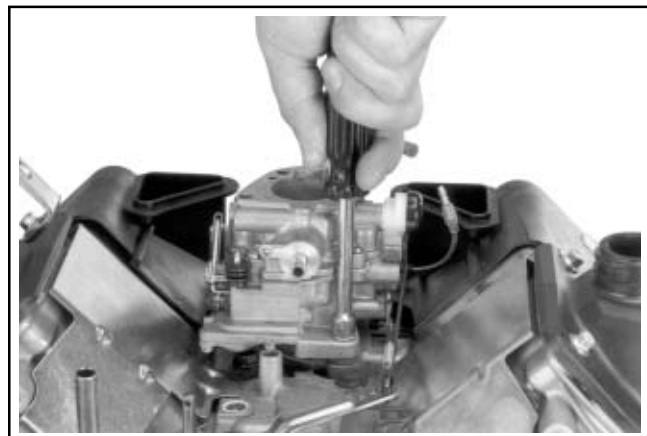

Figure 9-23. Removing Carburetor Mounting Screws.
2. Remove the two carburetor mounting screws. See Figure 9-23.